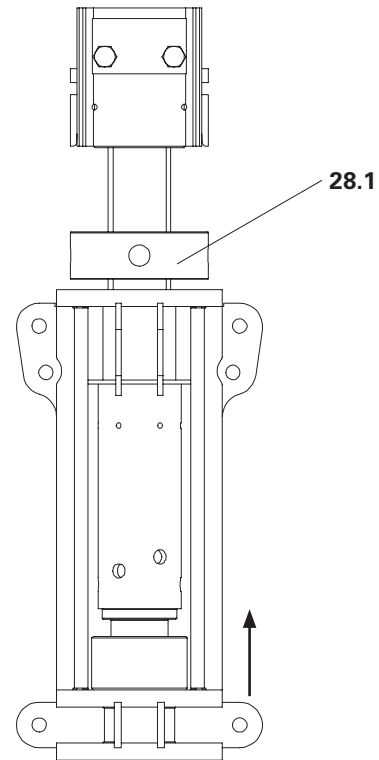

Fig. D2.02
3. Completely extend the hydraulic cylinder (43.4) until the spindle nut (28.1) can freely move. (Fig. D2.02)
4. Insert the mounting shaft VST (29) into the spindle nut (28.2).
5. Turn the spindle nut (28.1) with mounting shaft VST (29) until there is a 10 mm spacing to the head plate.